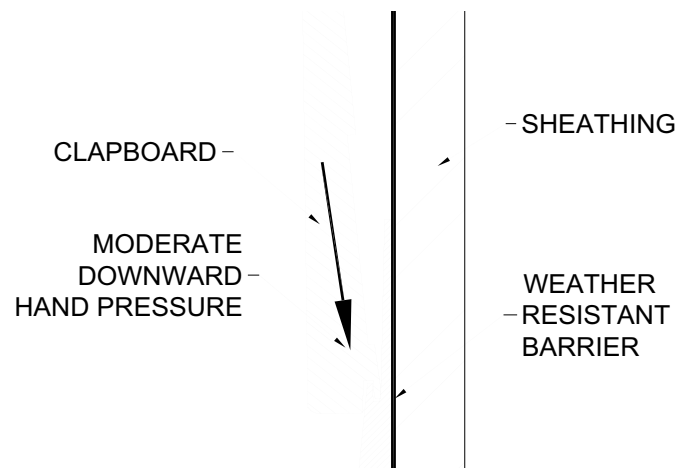

FIG.6
5. *Use moderate downward hand pressure when installing clapboard onto previously fastened course. Do not use excessive force (e.g. hammers, tapping blocks, etc.) (Fig. 6).*
Use moderate downward hand pressure when installing clapboard onto previously fastened course. Do not use excessive force (e.g. hammers, tapping blocks, etc.) (refer to Fig. 6).